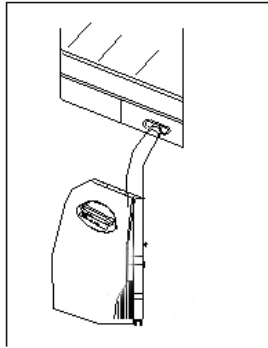
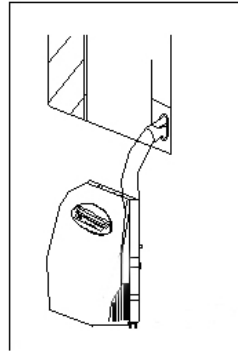

Fig.7
Fig.7a
- 2) Install the Flexible Exhaust Hose and the Adjustable Window Slider Kit as depicted in Fig.7 □ Fig.7a